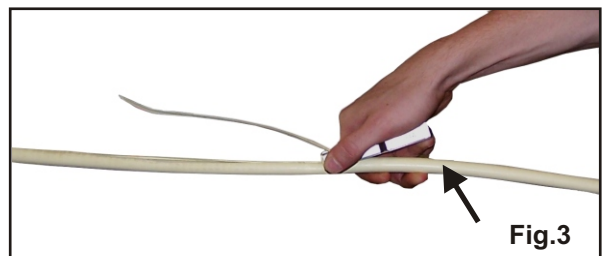

Fig.3
3. To terminate the window cut, lift the back end of the tool until the window chip breaks off (Fig.3)